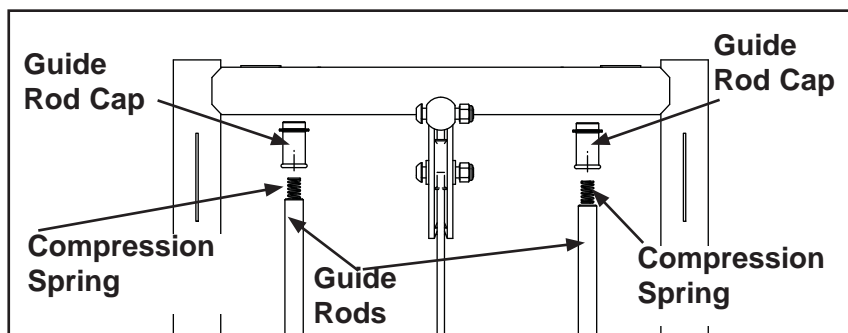

Figure 2
- E. Slowly release grasp of guide rod cap. See Figure 2. **NOTE:** Guide rod cap contains a compression spring that will fly if grasp is not released slowly.